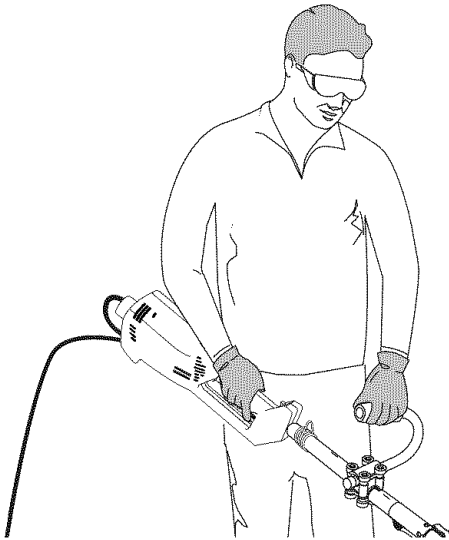

Fig. 3
6. While holding the unit in the operating position (Fig. 3), position the assist handle to the location that provides you the best grip.